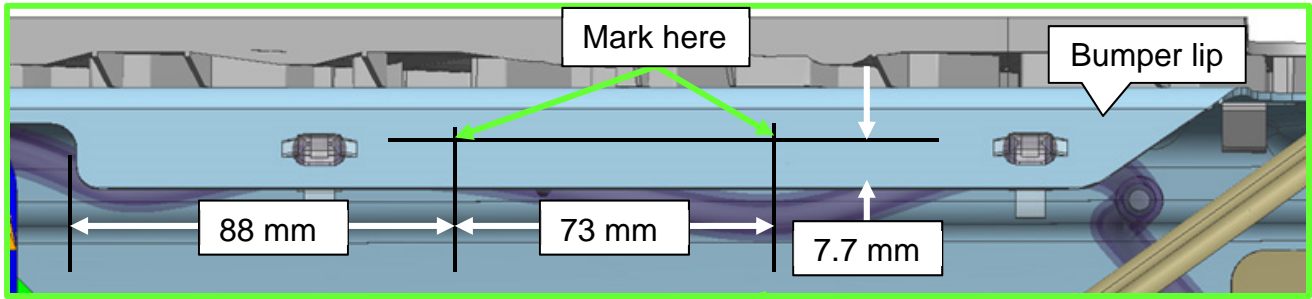
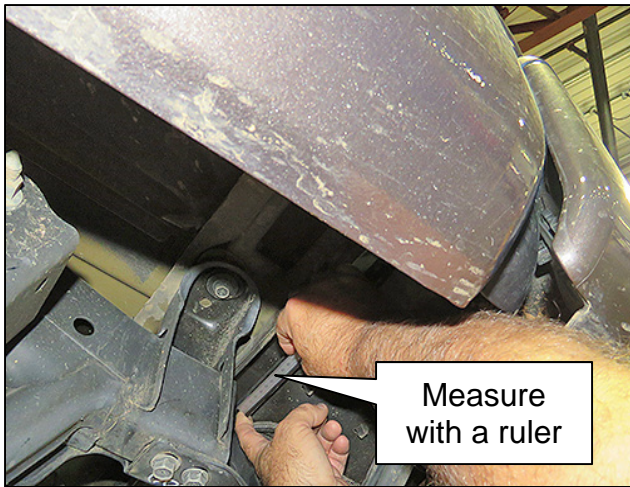
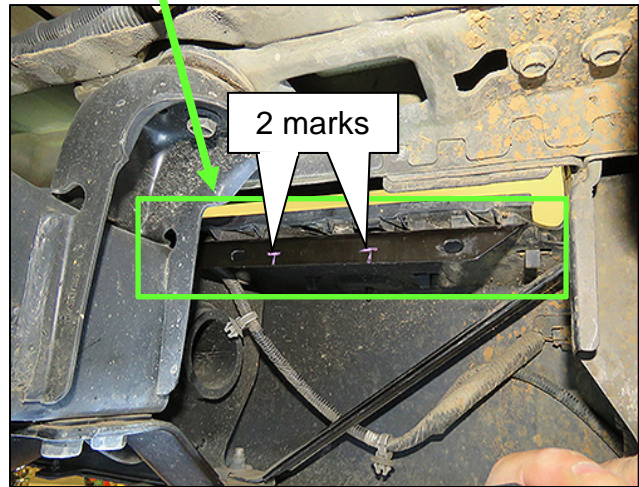

Figure 3
Figure 4
Figure 5
- Using the dimensions shown in Figure 3, measure and then make two (2) marks on the bumper lip as shown in Figure 4 and Figure 5.